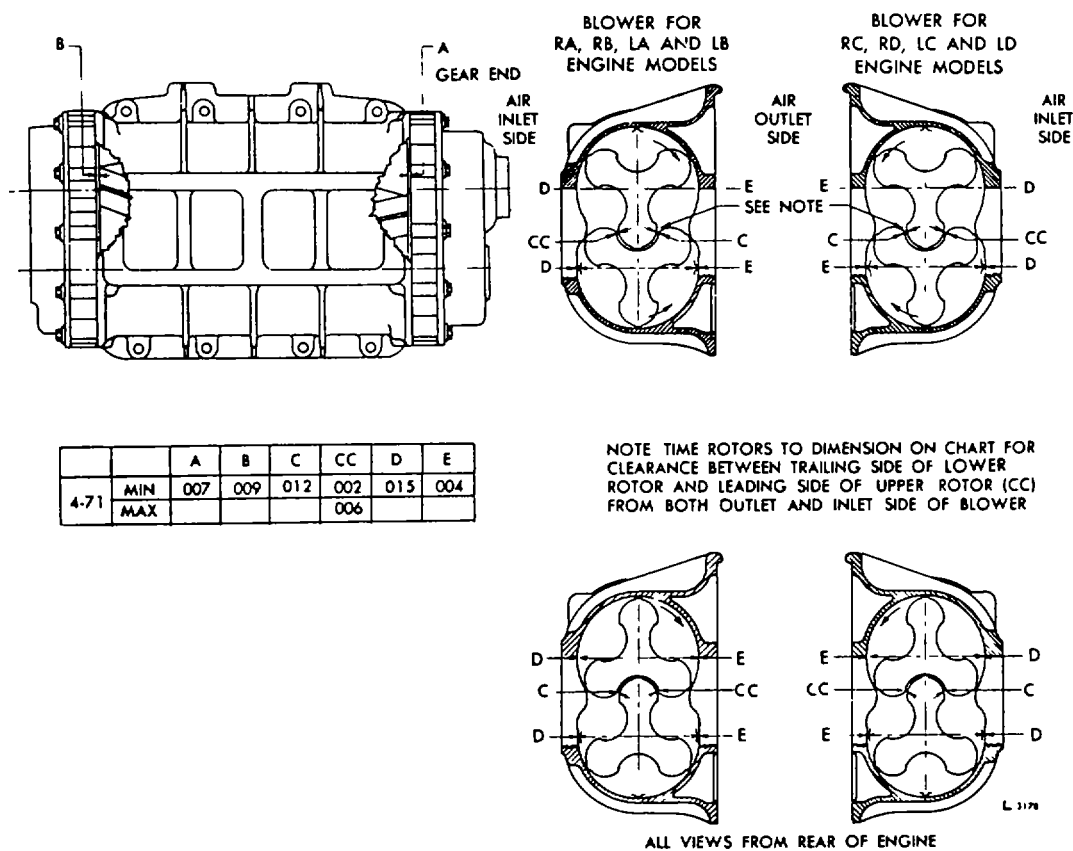

Figure 3-41. Rotor Timing.
- (38) Remove the gear installers.
- (39) Install retainer (4), lockwasher (5), and bolt (6). Torque bolt to 55-65 lb-ft (75-88 Nm).
- (40) Install drive coupling disc (7), lockwasher (8), and bolt (9). Torque bolt to 55-65 lb-ft (75-88 Nm).
- (41) Remove the cloths from the blower.
- (42) Refer to figure 3-41 and use a feeler gage and check dimensions "A" and "B" on both rotors and all lobes.
- (43) Take measurements "C", "CC", "D", and "E". Measurements should be taken 1 inch from the end of the rotor.
- (44) To change dimensions "C" or "CC", add or subtract shims (1, figure 3-40) as shown in figure 3-41. A shim change of 0.003 inch will cause a change of 0.001 inch in rotor spacing.
- (45) After each change of shims, recheck all measurements.